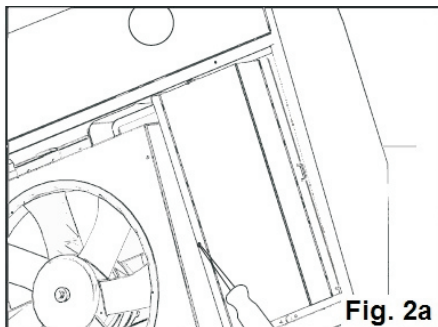

Fig. 2a
- d. Locate and open the wire box on the right side of the unit. (Fig. 2a)